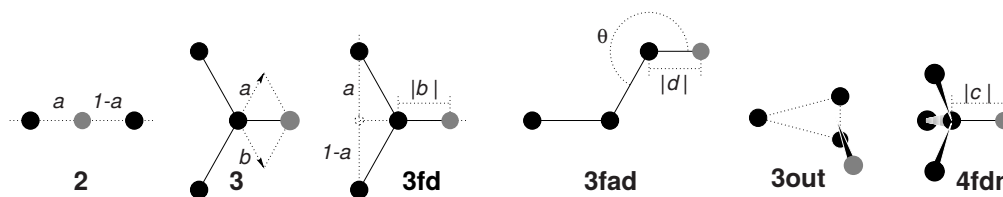

Fig. 5.33: The six different types of virtual site construction in . The constructing atoms are shown as black circles, the virtual sites in gray.
computation involved increases sharply along this list, so we strongly recommended using the first adequate virtual site type that will be sufficient for a certain purpose. Fig. 5.33 depicts 6 of the available virtual site constructions. The conceptually simplest construction types are linear combinations:
- As a linear combination of two atoms (Fig. 5.33 2):
- As a linear combination of three atoms (Fig. 5.33 3):
- In the plane of three atoms, with a fixed distance (Fig. 5.33 3fd):
- In the plane of three atoms, with a fixed angle and distance (Fig. 5.33 3fad):
- As a non-linear combination of three atoms, out of plane (Fig. 5.33 3out):